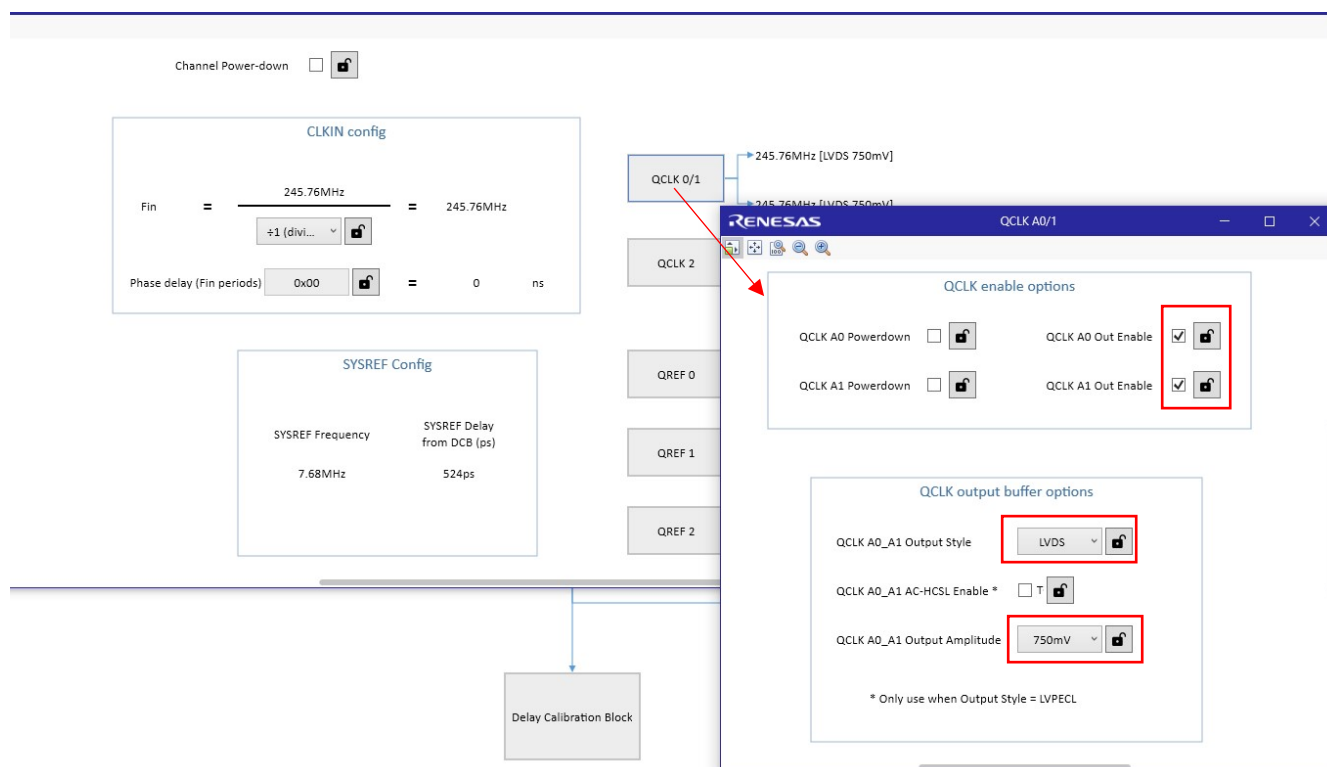

Figure 20. QCLKx Output Driver Type and Amplitude Setting
10. Set the clock output QCLKx output driver type and amplitude (see Figure 20 for an example).